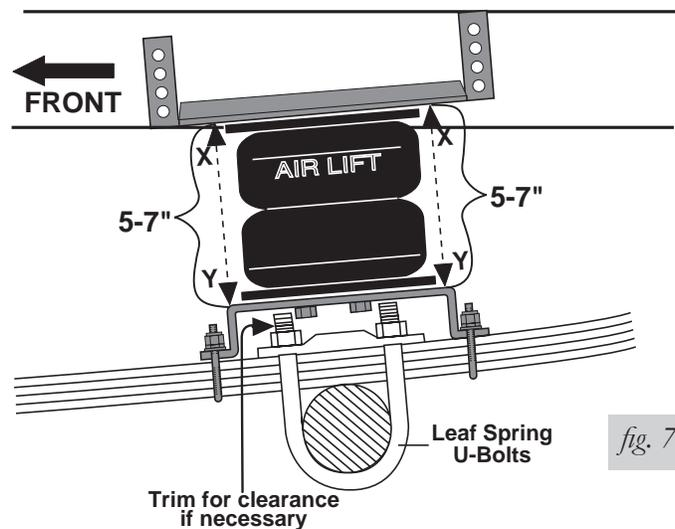

fig. 7
NOTE: Some vehicles may require the leaf spring U-bolts to be trimmed to allow the bottom bracket to fit properly (Figure 7).
1. Align the assembly vertically and horizontally (Figure 7). There must be sufficient clearance between the air springs, the frame, and the tire and brake drum at the maximum inflated diameter (7.0"). Tighten the upper bracket and mounting bolts for the bellows to 20 ft./lbs.